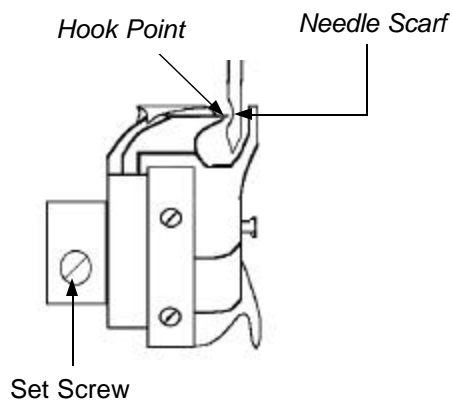

Figure 3
7. Before making any adjustments, check hook timing. Hook Point should cross behind needle in middle of scarf of needle and approximately 1-2 threadwidths away from needle. See Figure 3